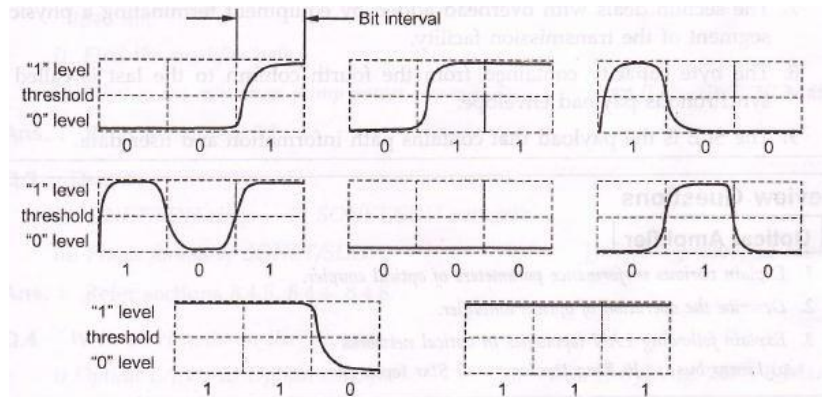

Fig. 8.7.5 Eight possible 3-bit-long NRZ combination of pulses
- The display pattern formed can be understood by considering 8 combinations of 3-bit long NRZ code. The 8 patterns are superimposed simultaneously forming an eye pattern. Fig. 8.7.5 shows 8 possible 3-bit long NRZ combinations of pulses with moderate rise and fall times.